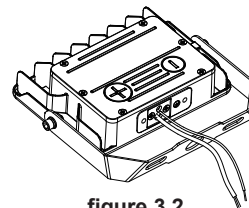

figure 3.2
Step 2: Tighten the brackets and screws. (figure 3.2)